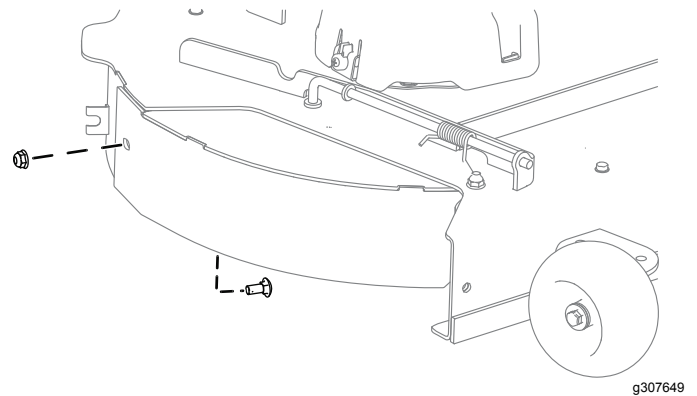

Figure 3
3. Secure the right side of the baffle to the deck using 1 carriage bolt (5/16 x 3/4 inch) and 1 flange nut (5/16 inch) as shown in Figure 3. Tighten the fasteners by hand.